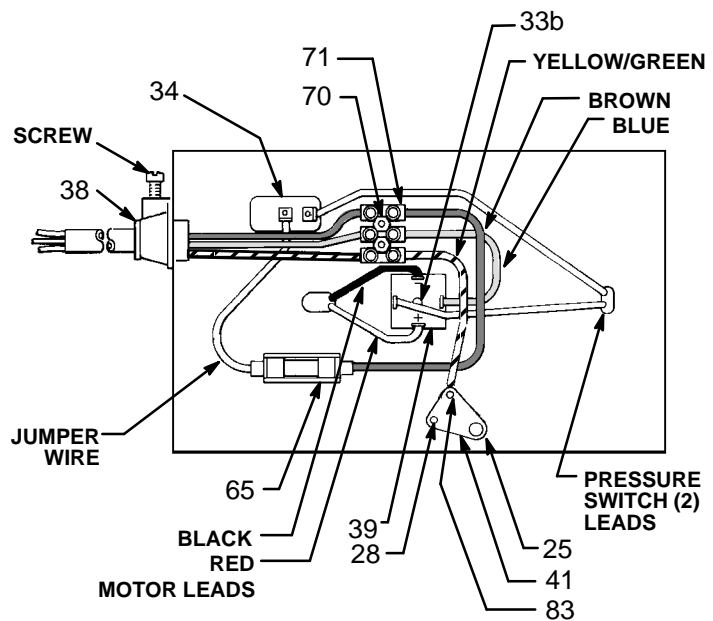

Fig 11
Rectifier (See Fig 11)
1. Disconnect the two leads from the ON/OFF switch terminals. See Fig 11.
Power Supply Cord (See Fig 11)
1. Disconnect the power supply cord leads from the terminal strip (71) by loosening the three screws on the cord side of the strip. See Fig 11.
2. Loosen the screw in the side of the strain relief bushing (38) and pull out the cord.
3. Strip approximately 6 mm (1/4 in.) of insulation off each end of the new cord. Install the new cord and connect the leads to the terminal strip as shown in Fig 11, being sure that each color lead is across from a like-colored lead.
Pressure Switch (See Fig 11, 12 & 13)
1. Disconnect the pressure switch leads from the ON/OFF switch and from the rectifier. See Fig 11.
6. Guide the pressure switch leads through the base. Connect a lead to the power-out side of the ON/OFF switch (34) and a lead to an unmarked terminal on the rectifier (39). See Fig 11.
7. Reinstall the front cover (23).
1. Remove the front cover plate (23).
2. Remove the bumpers (43) and the bottom cover plate (42). Disconnect the motor leads from the positive and negative rectifier terminals. See Fig 11, page 12.
3. Remove the motor screws. Lift the motor (31) slightly. Holding the connecting rod, pull the motor away from the housing (22).
4. Inspect the bearing (18b) in the connecting rod (18). If it is worn or any rollers are broken, replace the bearing and rod assembly (18) as instructed to the left.
6. Feed the motor leads through the rubber grommet (69). Align the motor with the pins in the connecting rod housing (22), guiding the motor eccentric through the connecting rod bearing (18b). Spin the motor shaft to be sure it moves freely.
7. Loosely install the lockwashers (21) and screws (20). Spin the motor shaft again. Alternately tighten the screws. Spin the motor shaft again. See the CAUTION in Step 8 to the left.
8. Connect the red motor lead to the positive (+) terminal and the black motor lead to the negative (-) terminal of the rectifier (39). Refer to Fig 11.